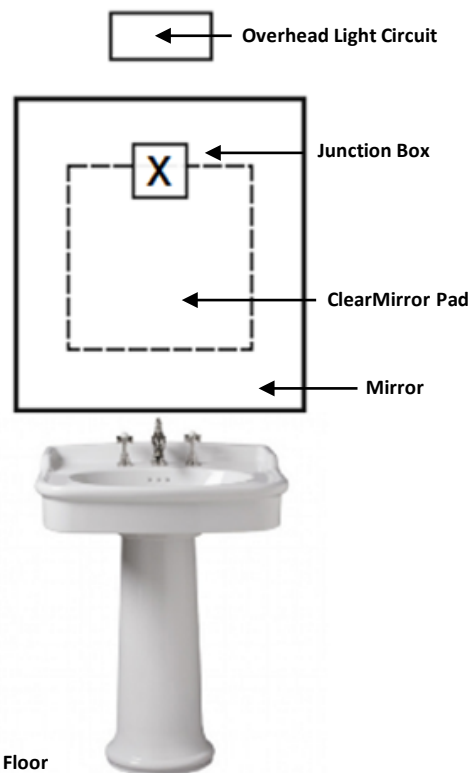

Figure 1. ClearMirror height and positioning.
With mirror removed, mark junction box location on the wall where the sink's center meets the top edge of the ClearMirror heater. Normally 2 inches higher than the tallest user as shown in Figure 1.
- Before attaching ClearMirror pad onto mirror, re-measure the sink's center and height position and mark an 'X' on the back of the mirror at this location (see Figure 1).